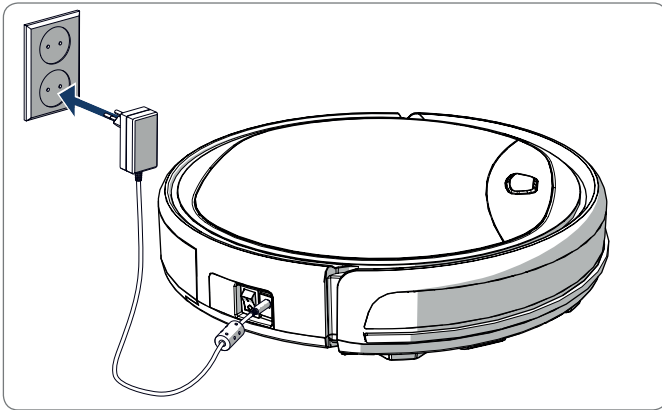

Figure 11 - Charging the robot directly with the power adapter
- With the power adapter directly connected to the robot. To do this, insert the adapter into the robot and plug the other end into a power socket, see Figure 11.